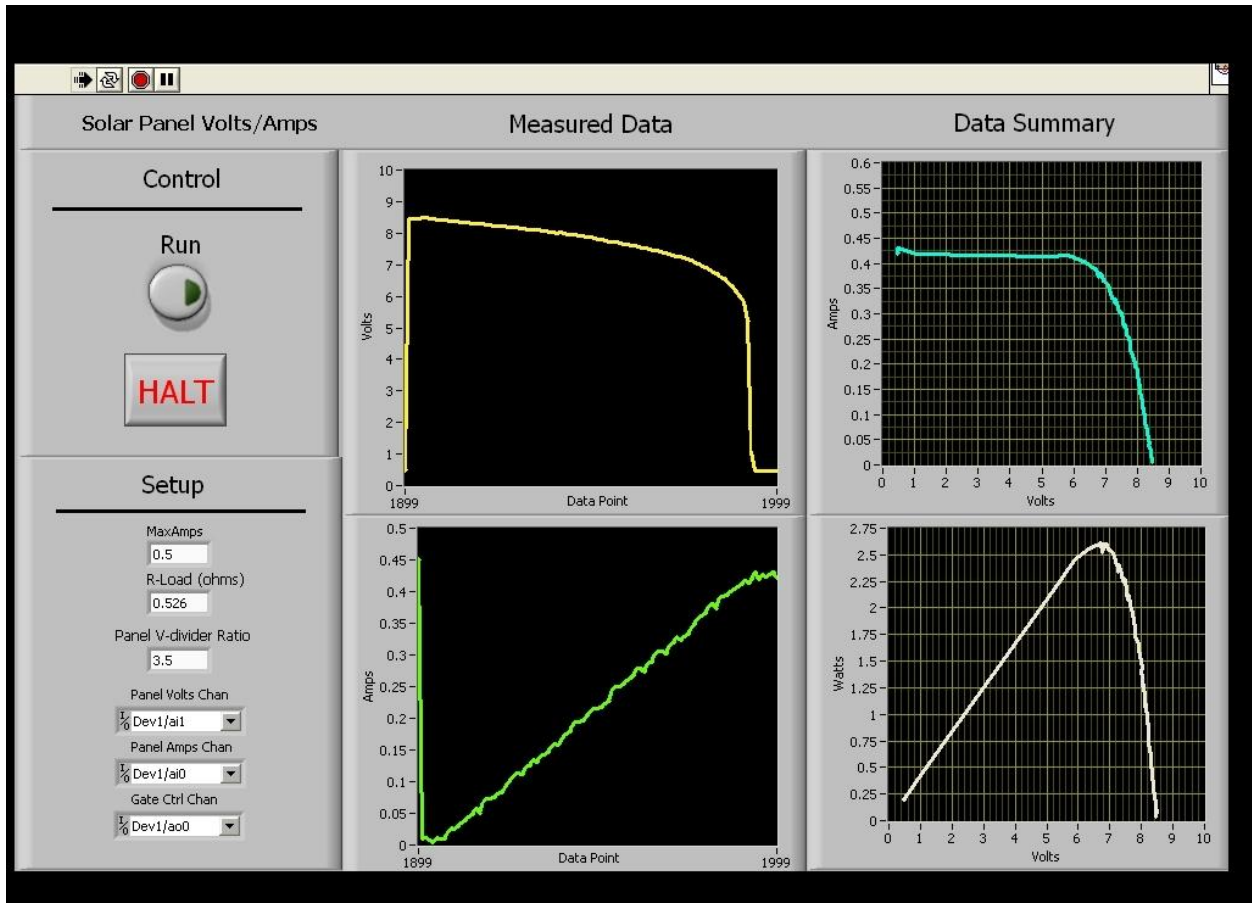

Figure 2. Labview program front panel.
**Operator Interface:** The LabVIEW screen (Figure 2) consists of setup controls, graphs of measured current and voltage data, and two graphs showing the I-V relationship and the power – voltage relationship. The data are measured and graphed in real time. At the conclusion of the measurement the operator is given the option to save the data set.